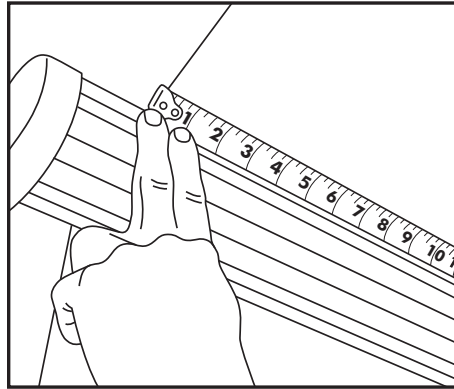
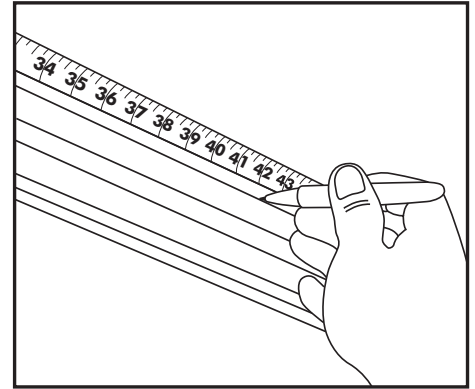

Fig.1
Fig.2
1. With the awning fully extended, measure the distance calculated using the chart on the previous page from the edge of the awning fabric. **(Fig.1)**. Mark the roller tube at that predetermined distance and 1/2" down from the fabric seam. **(Fig.2)**. This is where the first Awnbrella arm will later be installed. Continue to make all measurements and markings along the roller tube for placement of the remaining arms. Verify the correct spacing before proceeding to the next step.